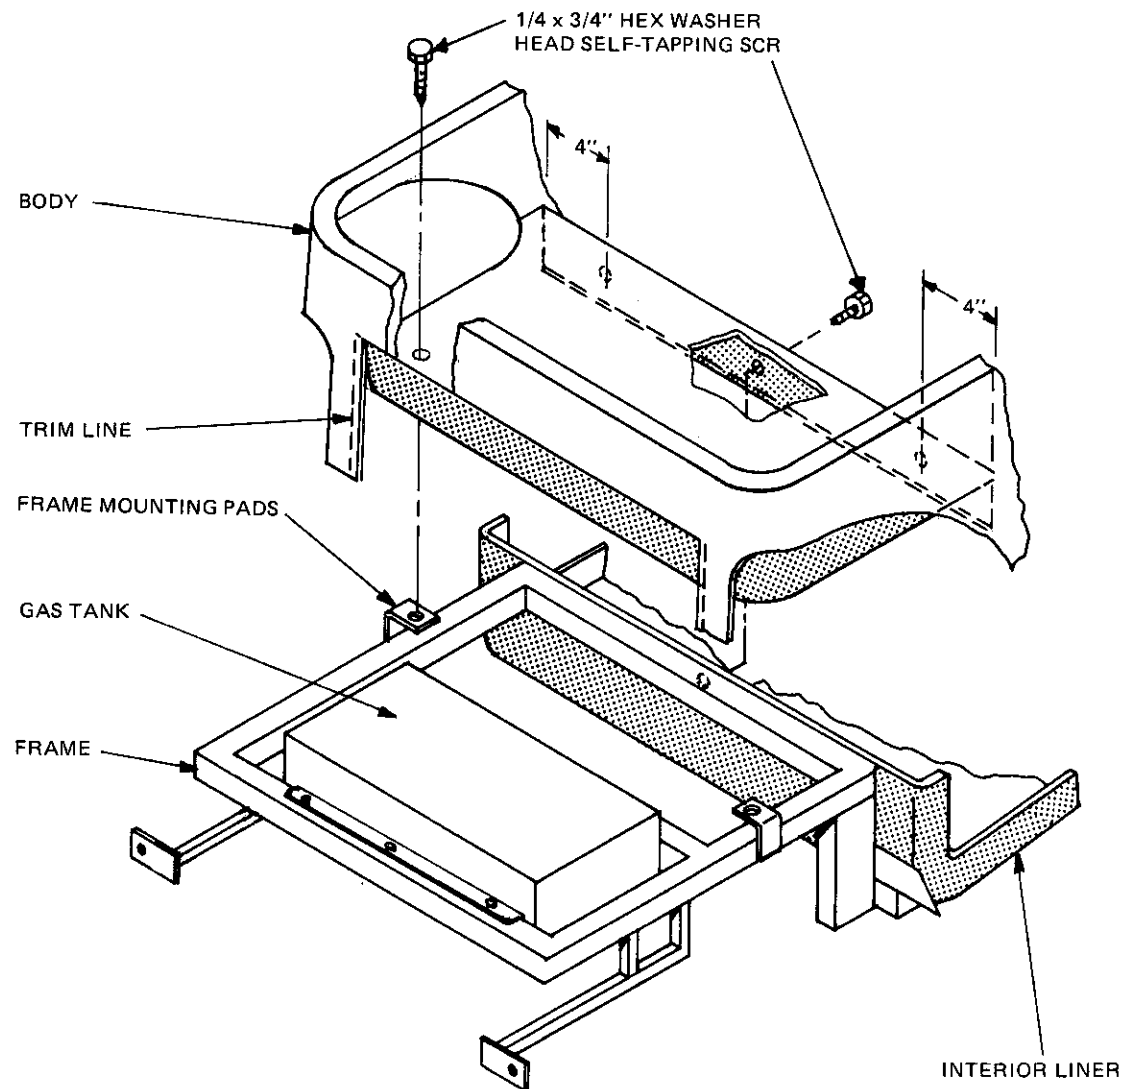

Figure 34
- ☐ Trim rear of body to line if not already done. Drill pre-marked holes as shown (1/4" drill). Set body onto frame, pushing it back as far as possible. Be sure body is seated on the two mounting pads on the frame. (Figure 34)